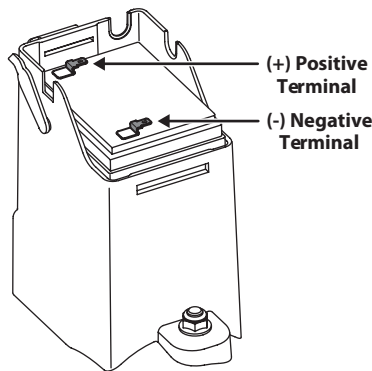

Figure 4-5
3. Replace with new battery. Connect the positive lead (red) to the positive side of the battery pack, then connect the negative lead (black) to the negative side. See Figure 4-5.